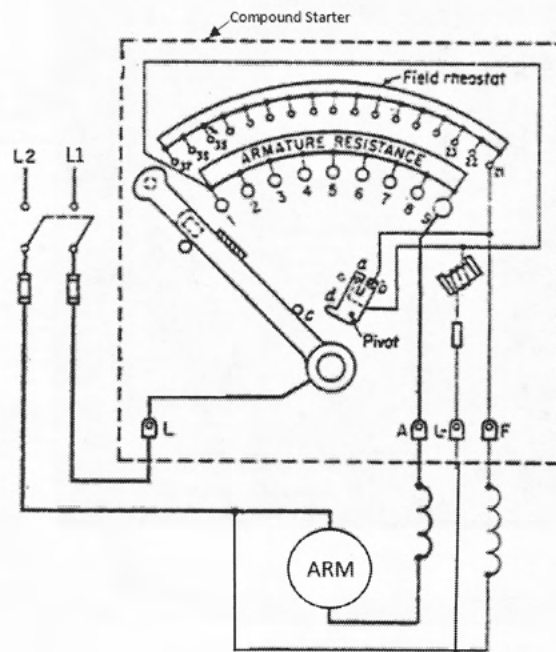

Figure 4 – Diagram showing a compound starter connected to a compound motor
Figure 4 – shows a wiring diagram of a compound motor connected to a compound starter, an arrangement that not only makes certain that the motor starts with full field but provides a neat unit construction of armature and field-rheostat resistors. The arrangement requires a double arm, one longer than the other, and mounted and pivoted at the same hub post. An operating handle, fixed to the end of the free brush-carrying long arm, is moved over a set of field-rheostat studs in a clockwise direction and pushes the shorter spring-loaded arm whose brush wipes over the armature-resistance studs. During the accelerating period, i.e., as the armature resistors are being cut out, field current passes directly from stud 1 to contacts (a) and (b), through a pivoted U-shaped brass piece, and thence directly to field terminal (F). Note particularly that the motor starts on full field but, as in the plain starters, the armature resistors are inserted in the field circuit as they are removed from the armature circuit. When the short arm reaches its final position, it is held there by the low-voltage release (holding coil). At the same time, a small insulated piece (C) that is fastened to the short arm engages the pivoted U-shaped brass segment at (d) to rotate it counterclockwise; this motion disconnects the brass segment from the armature resistor at point 1 and connects the line terminal directly to stud 21 and field terminal F. The motor will thus be running on full field with all acceleration resistors cut out. Now then, if the long arm, which is free, is moving counterclockwise, it can be made to rest by friction at any higher numbered stud and cause speedup; this motion is equivalent to cutting in resistance with a field rheostat.